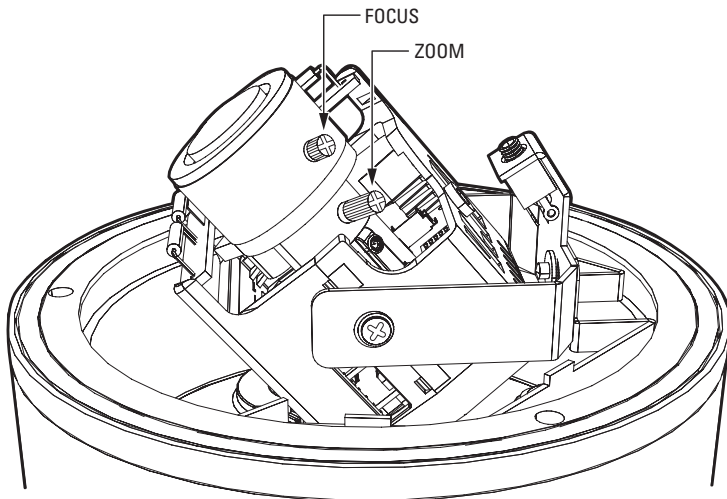

Figure 9. Location of Zoom and Focus Locking Screws
1. Loosen the zoom locking screw (refer to Figure 9).